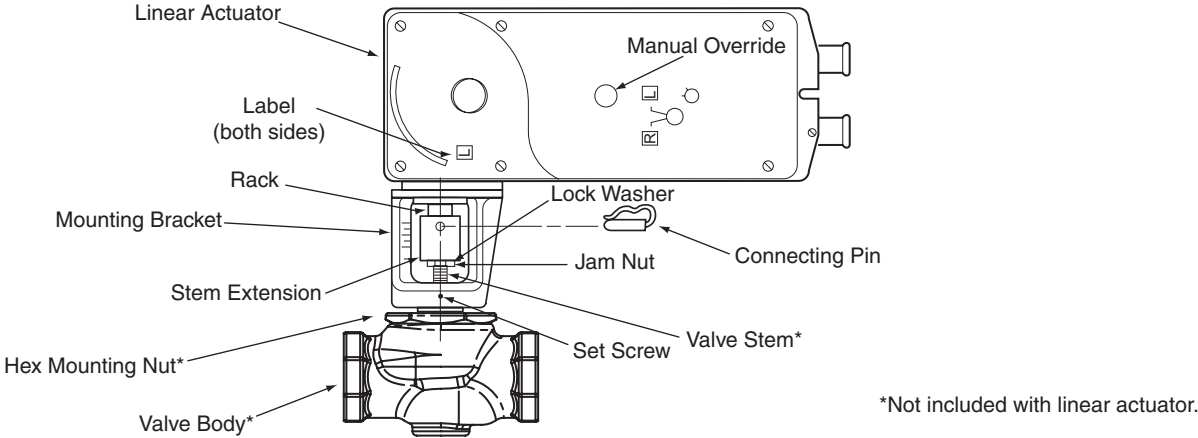

Figure 11 Typical Assembly and Installation of Mx51 Series Actuator to 1¼" to 2" VB-7xxx Series Valve Bodies, Stem-Up Closed or Open, 2-Way and 3-Way Valves.
1. Install the actuator onto the valve. Set up the assembly according to the numbered steps in Figure 11.